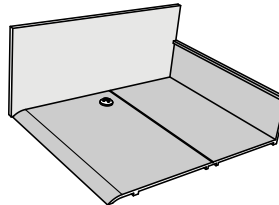
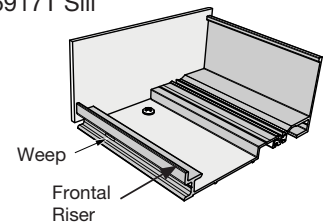
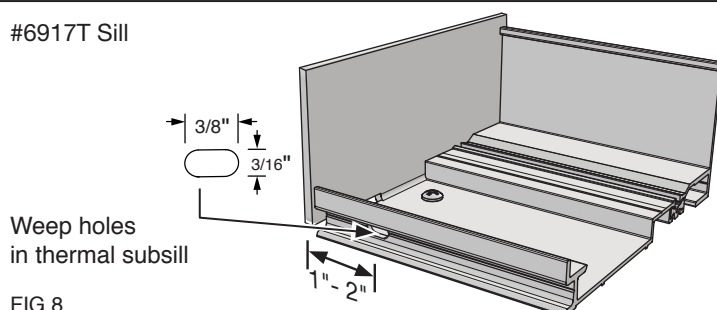

FIG.6 Non-thermal and
FIG.7 High Performance
FIG.8
**(Figure 6)** and **(Figure 7)** illustrate the attachment method using a #6 sheet metal screw. One screw per end dam is sufficient and maintains a minimum number of penetrations of the subsill. Sealant will ensure that the end dams remain fixed to the subsills. **(Figure 9)**
Weep holes must be placed in all #6917T High-Performance Subsills **(Figure 8)** to allow water to exit the system. Usually (2) weep holes between each vertical mullion will be sufficient. #6918 and #6918T Subsills do not require weep holes due to the lack of frontal risers. **(Figure 6)**